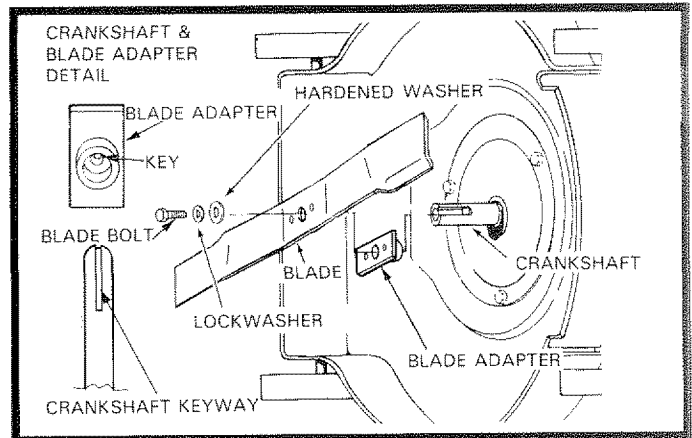

FIG. 10
- Remove Blade and attaching hardware (Bolt, Lockwasher and Hardened Washer) (See Fig. 10).
- Position Blade on to the Blade Adapter aligning the two (2) holes in the Blade with the raised lugs on the Adapter.
**NOTE:** Be sure the word TOP (stamped on the Blade) is toward the engine (See Fig. 10).
- Install the Blade Bolt with the Lockwasher and Hardened Washer into Blade Adapter and Crankshaft (See Fig. 10).